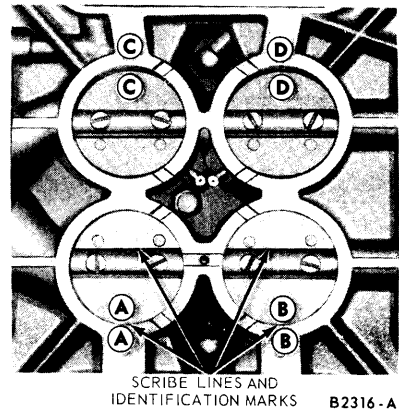

FIG. 23—Throttle Plate Removal
12. If it is necessary to remove the throttle plates, lightly scribe the primary and secondary throttle plates along the throttle shafts, and mark each plate and its corresponding bore with a number or letter for proper installation (Fig. 23).
Refer to the lines and identification marks scribed on the throttle plates (Fig. 23), and install the primary throttle plates in their proper location with the screws snug, but not tight. Invert the main body and hold it up to the light. Little or no light should show between the throttle plates and the throttle bores. Tap the plates lightly with a screwdriver handle to seat them. Tighten and stake the screws.